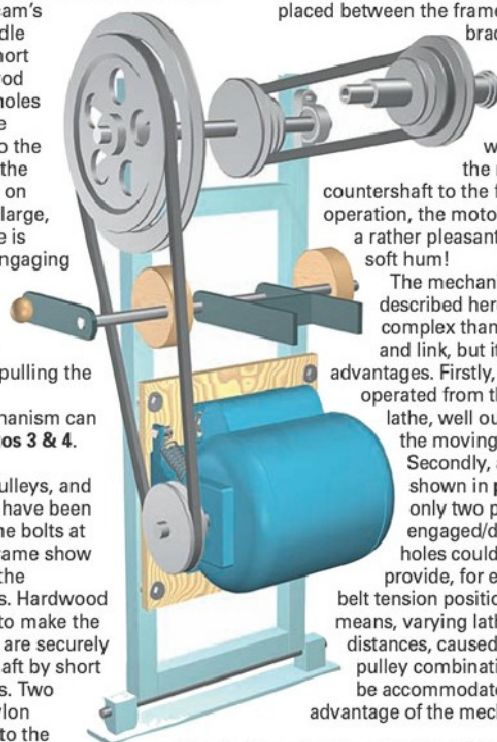

Fig. 1. The six-speed pulley drive.
The six-speed drive, shown diagrammatically in *fig. 1*, is essentially the same as that described in *ref. 1*, but with a few additions. A frame is attached to the lathe stand, but is free to rotate around a pivot at its lower end. The motor, with a two-step pulley, is mounted on the frame and has a V-belt connecting it to two large pulleys on a countershaft. The countershaft rotates in two ball races which are held at the top of the frame by two plummer blocks. On the countershaft is a three-step pulley with a V-belt to drive a similar reversed pulley on the lathe spindle. Releasing the V-belt to change between steps on the pulley is accomplished by pivoting the frame assembly forward towards the lathe.
A method of holding the rotational position of the cams is needed. This is not shown in *fig. 1*, but one way of doing this can be seen in *photos 1 & 2*. The lever at the end of the cam's shaft has a handle attached to a short steel rod. This rod can engage in holes drilled in a plate which is fixed to the lathe stand. As the rotational force on the lever is not large, only a thin plate is required. The engaging rod is held in the holes by a compression spring, but can be released by pulling the handle.
The motor and lower part of the frame, hidden inside the lathe bench in *photos 3 & 4*, can be seen in *photo 5*. It may be noticed that the frame's pivot differs from that shown in *fig. 1*. (It was quicker to use a couple of old large hinges.) To reduce vibration, strips of rubber have been placed between the frame mounting